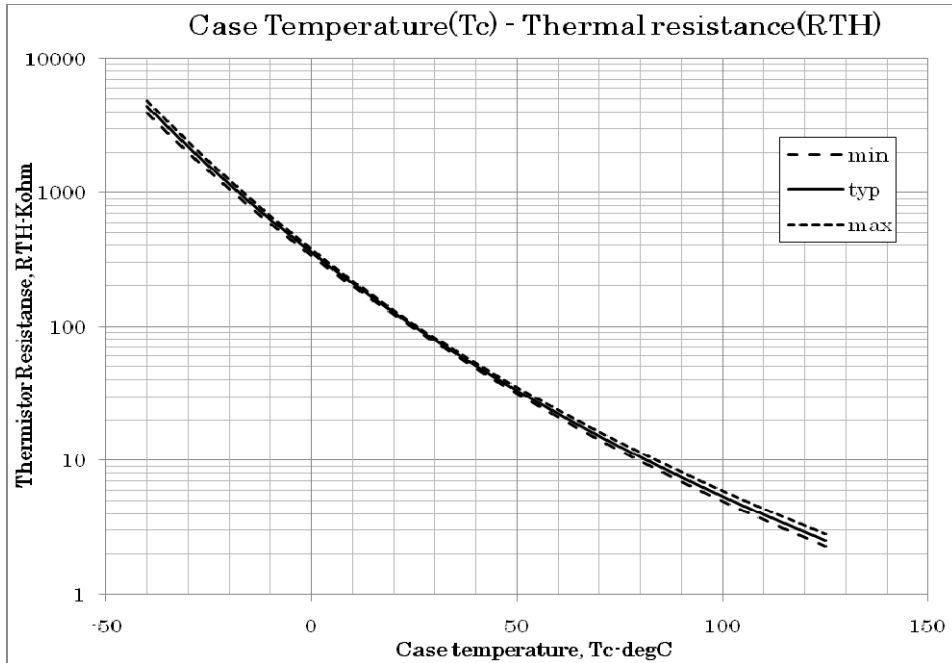
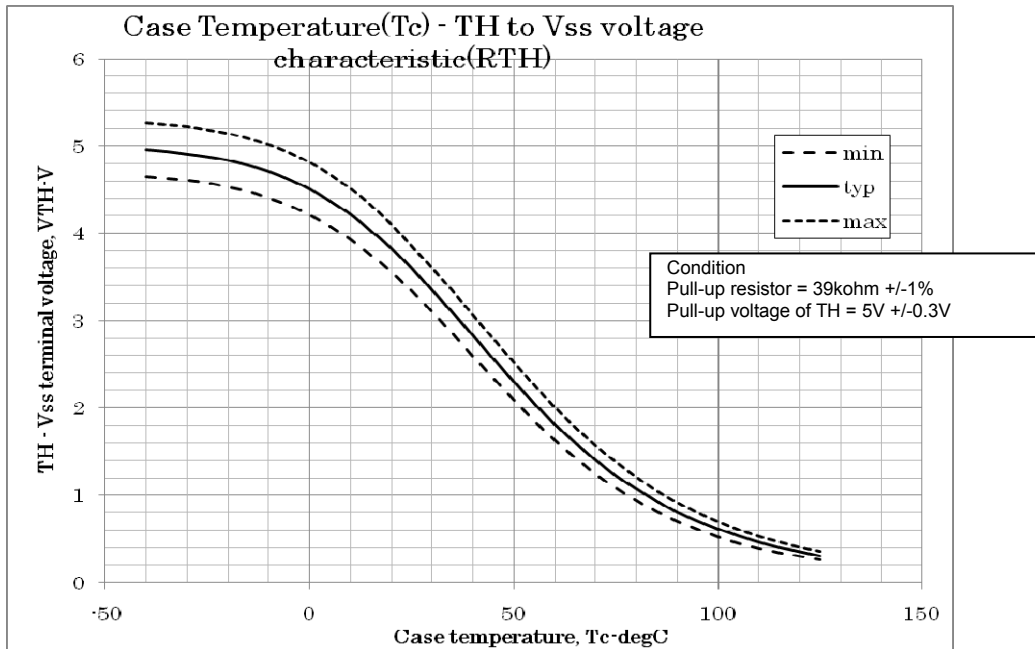

Fig.11 Variation of thermistor resistance with temperature
Fig.12 Variation of temperature sense voltage with thermistor temperature
5. Inside the IPM, a thermistor used as the temperature monitor for internal substrate is connected between VSS terminal and TH terminal, therefore, an external pull up resistor connected between the TH terminal and an external power supply should be used. The temperature monitor example application is as follows, please refer the Fig.11, and Fig.12 below.